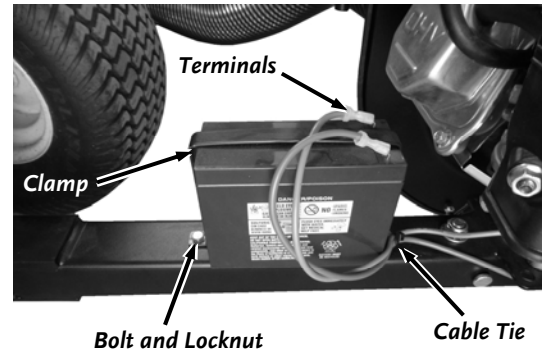

Figure 92
1. Disconnect the Battery Terminals (**Figure 92**).